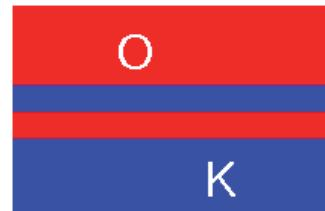

Fig.1
- Input 3D test signal as Fig.1.